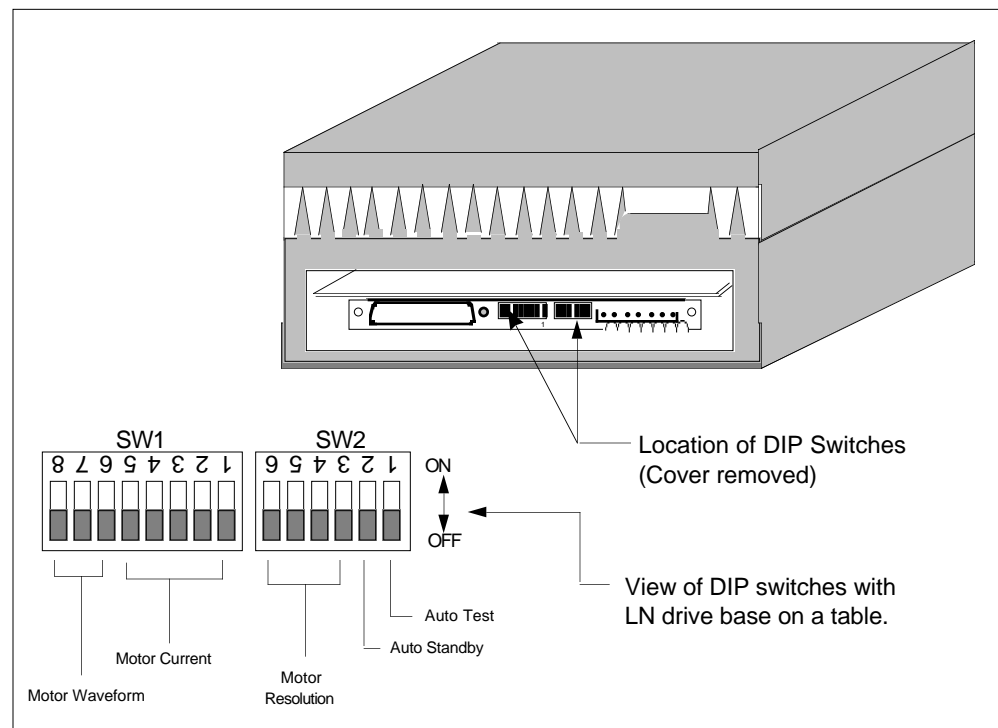

Figure 2-2. DIP Switch Locations
The LN Drive has two sets of DIP switches. The first set of switches will be referred to as SW1 and the second set as SW2. The individual switch will be preceded by the # symbol. Hence, the third switch on SW1 will be referred to as SW1-#3, while the third switch on SW2 will be referred to as SW2-#3. Figure 2-2 shows the location of the LN Drive's DIP switches.
- ① Remove the panel that covers the DIP switches (refer to Figure 2-2).
- ② Set the motor current for your Compumotor motor using Table 2-2. SW1-#5 thru SW1-#1 **motor current** (refer to Figure 2-2 for the location of the SW1). Make the required adjustments to match the drive and motor types that you are using.
- ③ To test the system, you will use the Automatic Test function. DIP switch SW2-#1 controls this function (refer to Figure 2-2 for the location of the SW2). Turn SW2-#1 on to enable the function. The Automatic Test function rotates the motor in an alternating move of slightly less than 6 revolutions at 1 rps.
- ④ After you have properly set motor current (SW1-#5 thru SW1-#1) and the Automatic Test function (SW2-#1), screw the plate that covers the DIP switches back onto the drive. **Do not change any other DIP switch settings.**
- ⑤ Replace the cover.